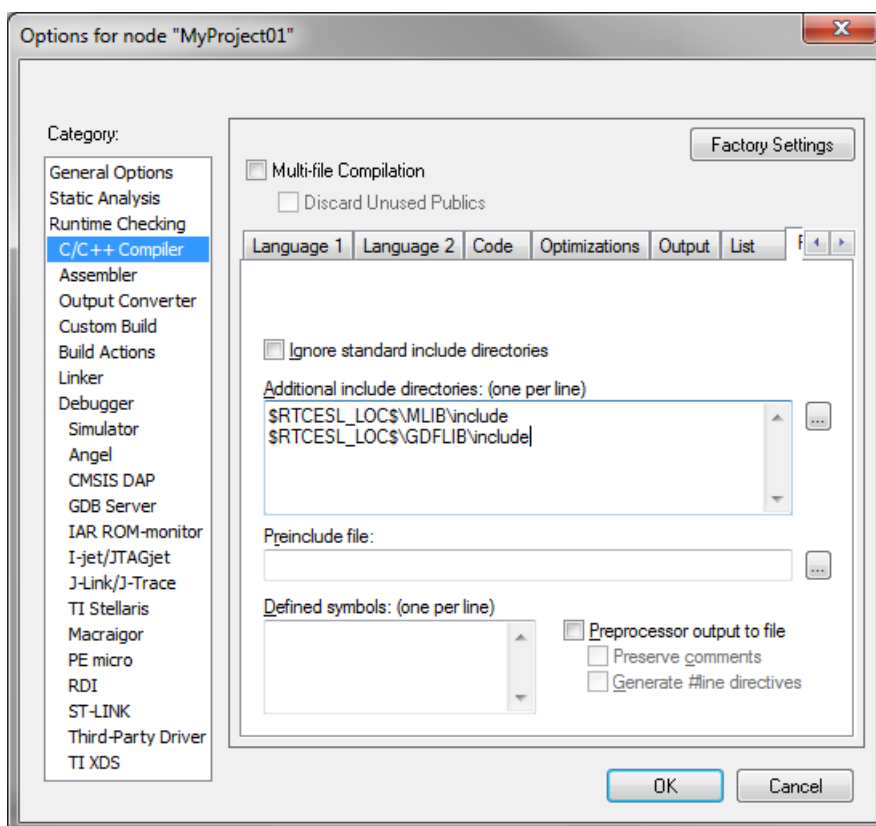

Figure 1-44. Library path addition
5. Click OK in the main dialog. See Figure 1-44.